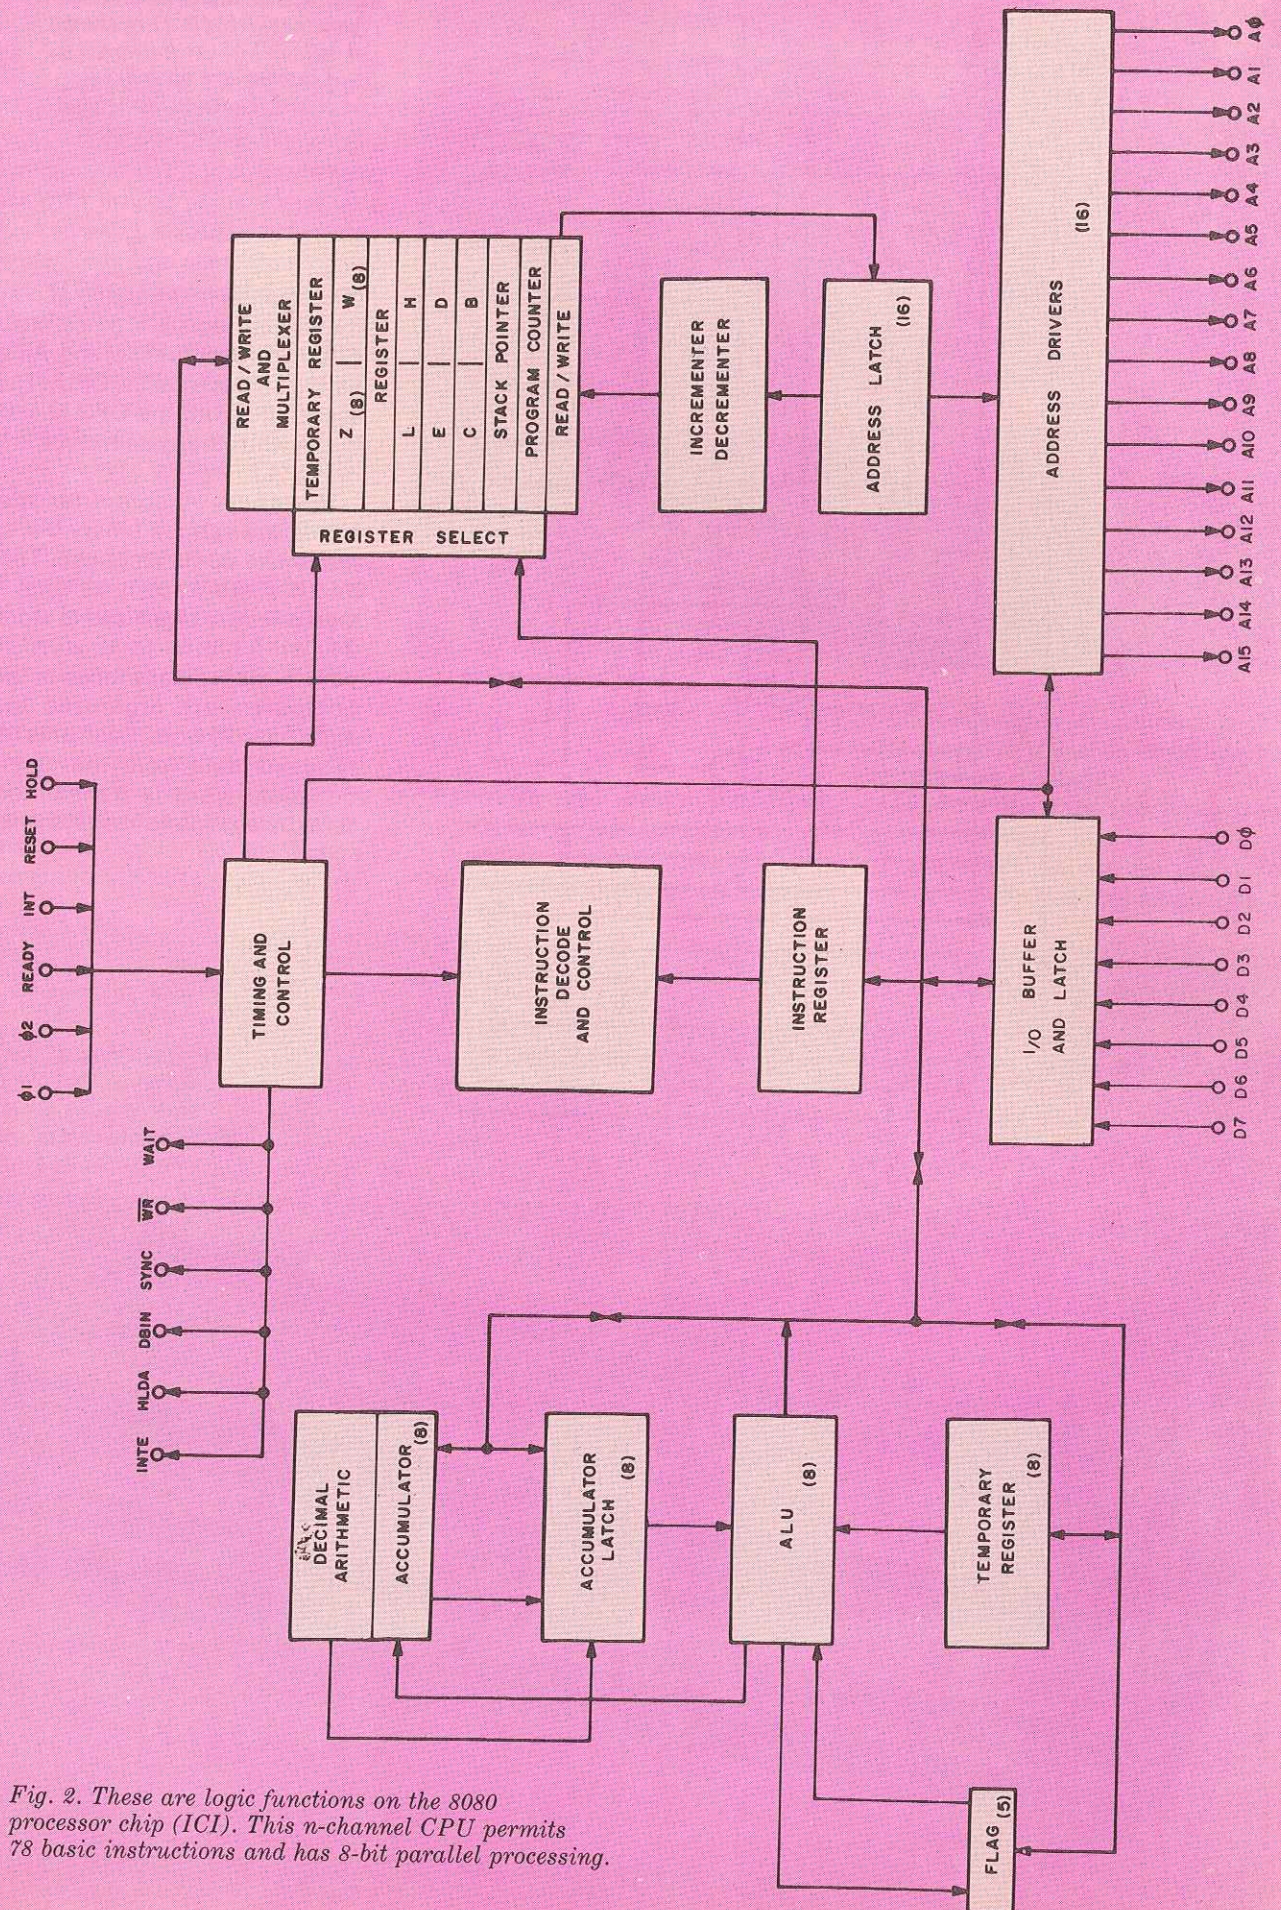

Fig. 2. These are logic functions on the 8080 processor chip (IC1). This n-channel CPU permits 78 basic instructions and has 8-bit parallel processing.
**CPU.** The heart of the computer is the CPU, or central processor unit. See fig. 2. The CPU performs all the calculations, generates system timing, and makes all decisions. Of particular importance are the decisions the CPU makes concerning what device should have access to the data buss. It makes these decisions by sending status information at the beginning of each computer cycle, telling the memory and the input/output what to expect for the rest of the cycle.